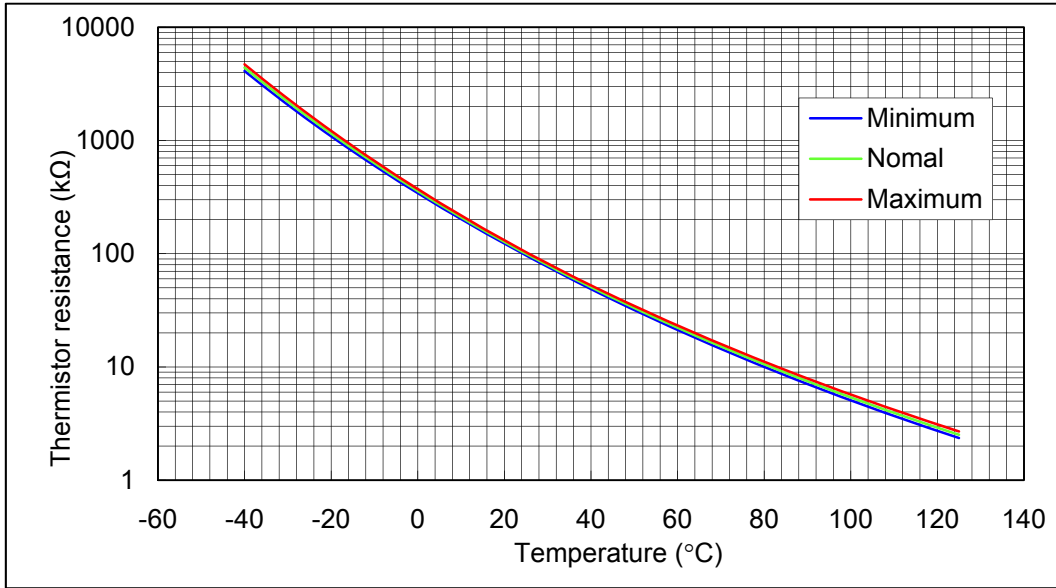
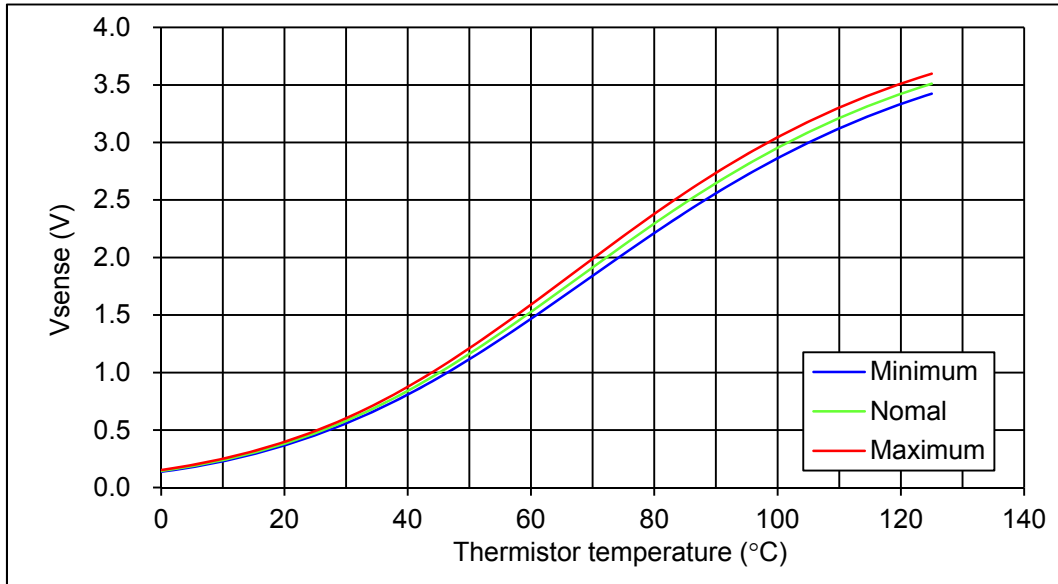
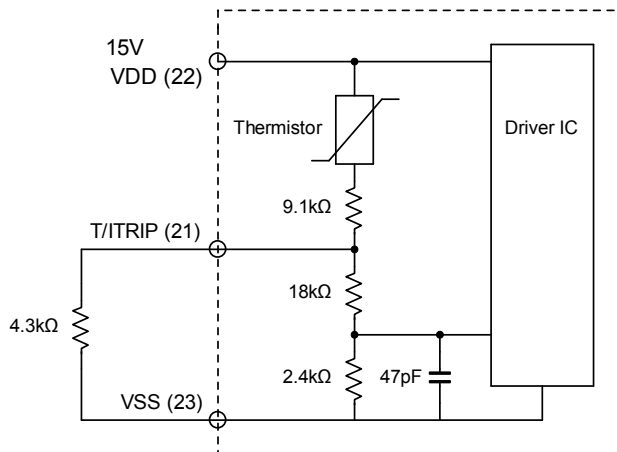

Fig. 10 Variation of thermistor resistance with temperature
Fig. 11 Variation of temperature sense voltage with thermistor temperature by using external bias resistance of 4.3 kΩ ±1% and VDD = 15 V
Fig. 12 Sample application circuit for temperature monitoring
- Inside the IPM, a thermistor used as the temperature monitor is connected between  $V_{DD}$  terminal and T/ITRIP terminal, therefore, an external pull down resistor connected between the T/ITRIP terminal and  $V_{SS}$  terminal should be used. The temperature monitor example application is as follows, please refer the Fig.10, Fig.11, and Fig.12 below.